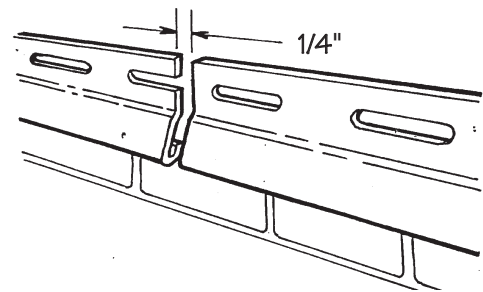

Figure 24.
- Keep the ends of starter strips at least 1/4" apart to allow for expansion (Fig. 24).